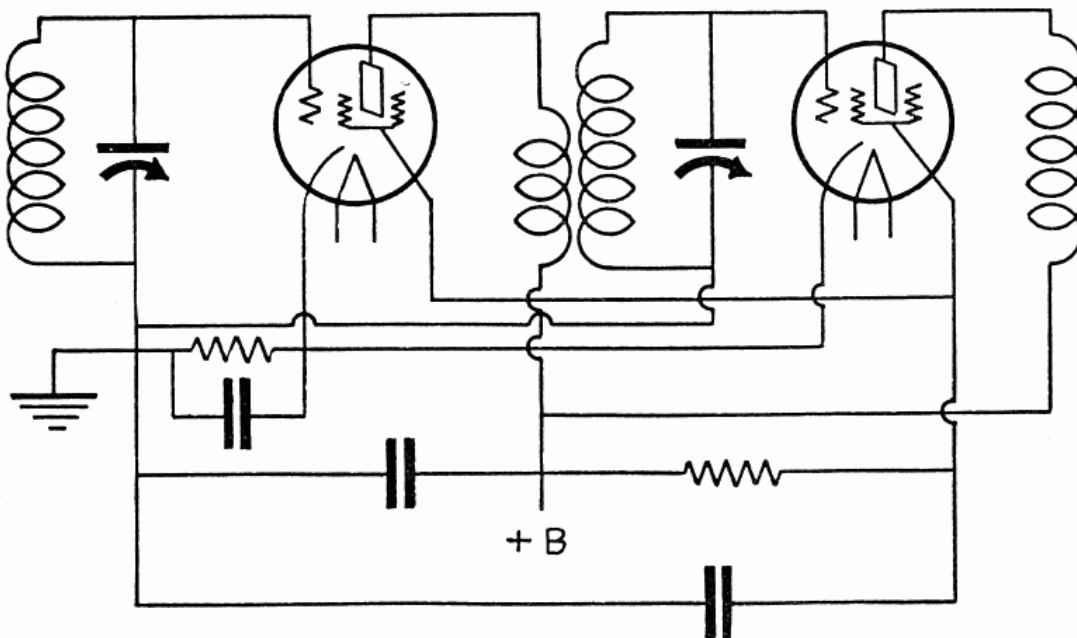

FIG. 9
4. *Open by-pass condenser.* In some receivers, for the sake of economy, the tubes may be operated from a single bias resistor shunted by a condenser. The screen grids and plates connect to a common supply terminal shunted to ground by a single condenser. See Fig. 9. Should one of these condensers open, coupling from one stage to another may cause regeneration or oscillation. In general any open by-pass condenser in any type of circuit may cause undesirable interstage coupling attended by squeals and whistles. Even if the condenser is intact, its by-pass action may be inadequate. Try a condenser with a larger capacity or use resistor-capacitor filters. Open or inadequate by-pass condensers give rise to a howl or squeal that may be heard without tuning the receiver.